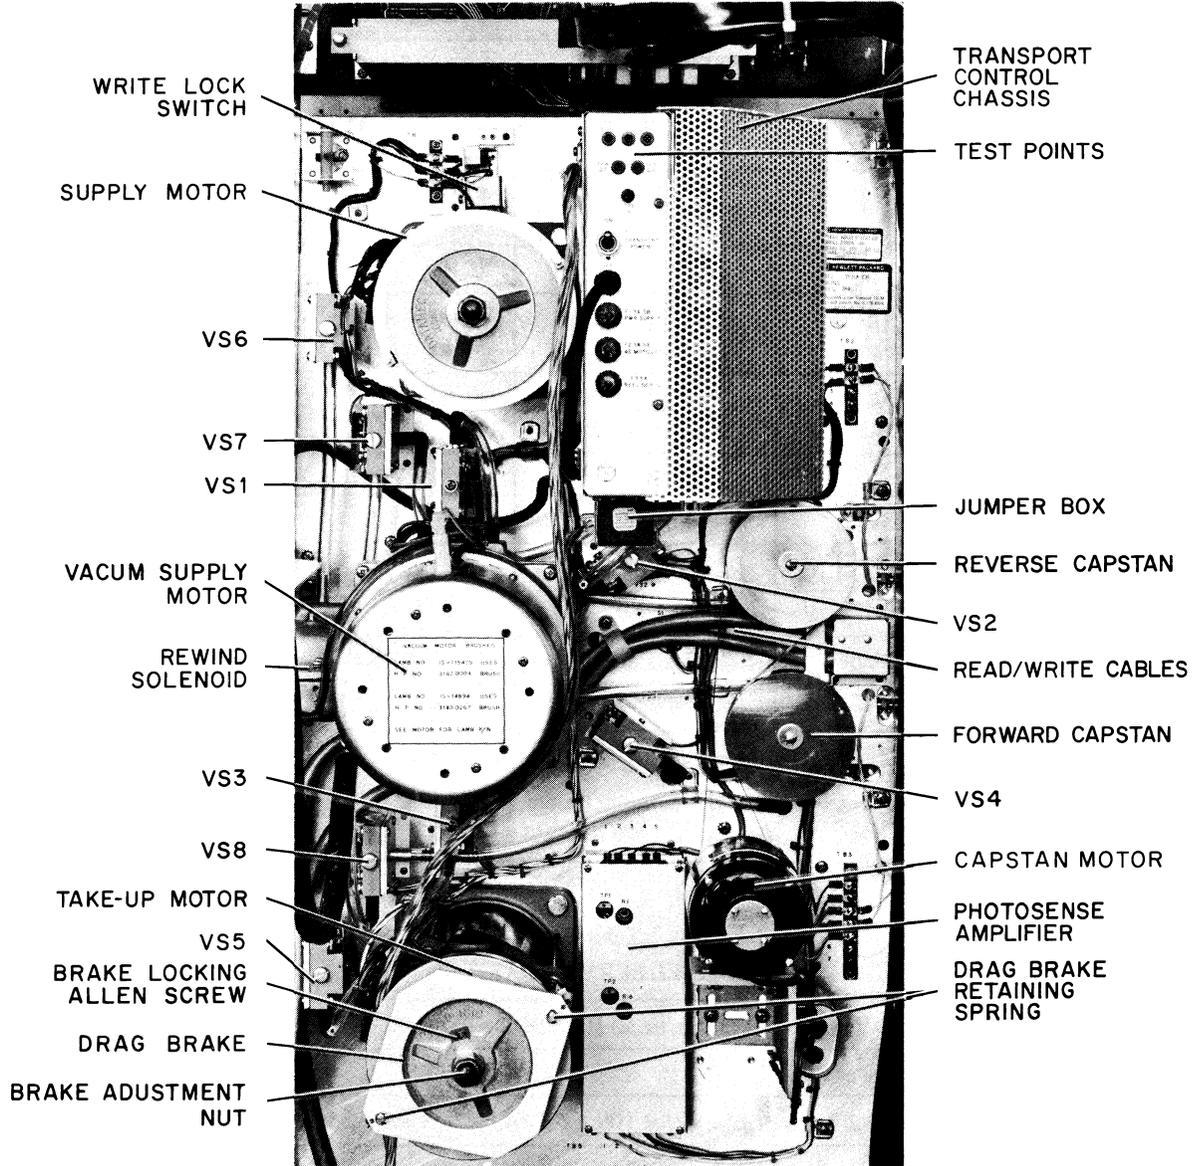

Figure 5-14 Tape Transport Unit
On the back of the CONTROL CHASSIS, there are six test points for voltages which supply the DATAMEC logic (see Figure 5-14). On new TU20s an additional test point is supplied for Jog time.
The symbol $\langle \leftrightarrow \rangle$ which appears on the schematic Tape Transport (page 1 of 2) refers to a jumper located inside the Jumper box on the bottom of the Control Chassis (see Figure 5-14).
5.3.4 Tape Motion Problems and Solutions (refer to Figure 5-14)
- c. 1/4-in. “T” fitting. If the fitting is not available, the one used for the hose connections for VS5 and VS8 in the transport may be used (see Figure 5-14).
1	Turn off power. Remove one of the Tape Cleaner Guide hoses from the fitting located at the base of the VACUUM SUPPLY MOTOR (see Figure 5-14) with a flat-head screwdriver.
- c.* Loosen the two screws which secure the REWIND SOLENOID (see Figure 5-14). Slide the solenoid body in or out to obtain the necessary 10 in. of water. Be sure the solenoid is energized when making this adjustment.